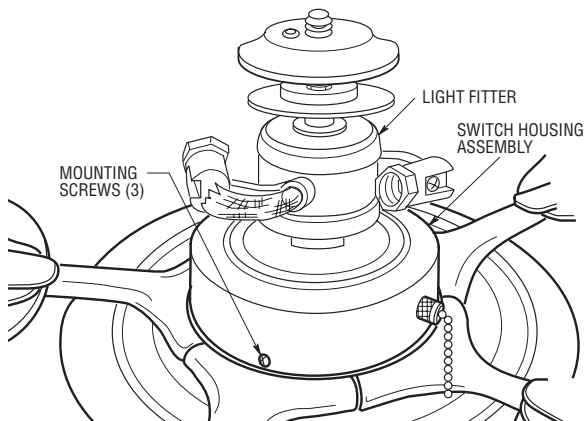

Figure 10
- 6. Remove the three switch housing screws from the switch housing plate. Position the switch housing assembly on the switch housing plate and align the holes in the switch housing assembly with the holes in the plate. Secure the switch housing assembly by installing the three screws (Figure 10).